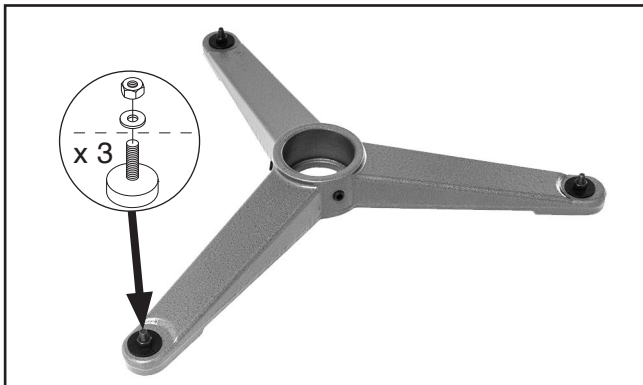

Figure 4. Feet installed on base.
1. Install (3) rubber feet on base with (3) 6mm flat washers and M6-1 hex nuts, as shown in **Figure 4**).